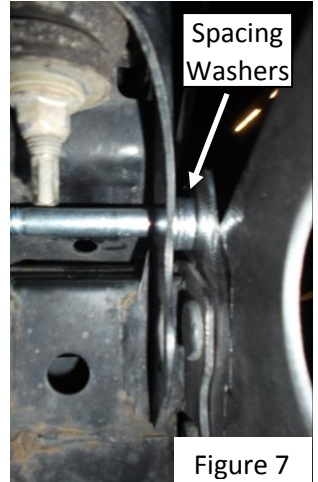

Figure 7
18. Insert two of the ½" x 5" Hex Bolts with a ½" USS Flat Washer through the top slots of the bumper mounting plate. Use spacing washers (the washers with the smaller outside diameter) to fill the gap between the bumper mounting plate and the body mount portion of the frame as shown in **Figure 7**. Select the appropriate number of spacer washers to match the size of the gap as closely as possible (most applications will use 5 spacer washers per side.) Insert the ½" x 5" bolt through the mounting plate, through the spacing washers, and then completely through the frame. (You can create more finger space by backing off the 6 nuts threaded on in step 17).